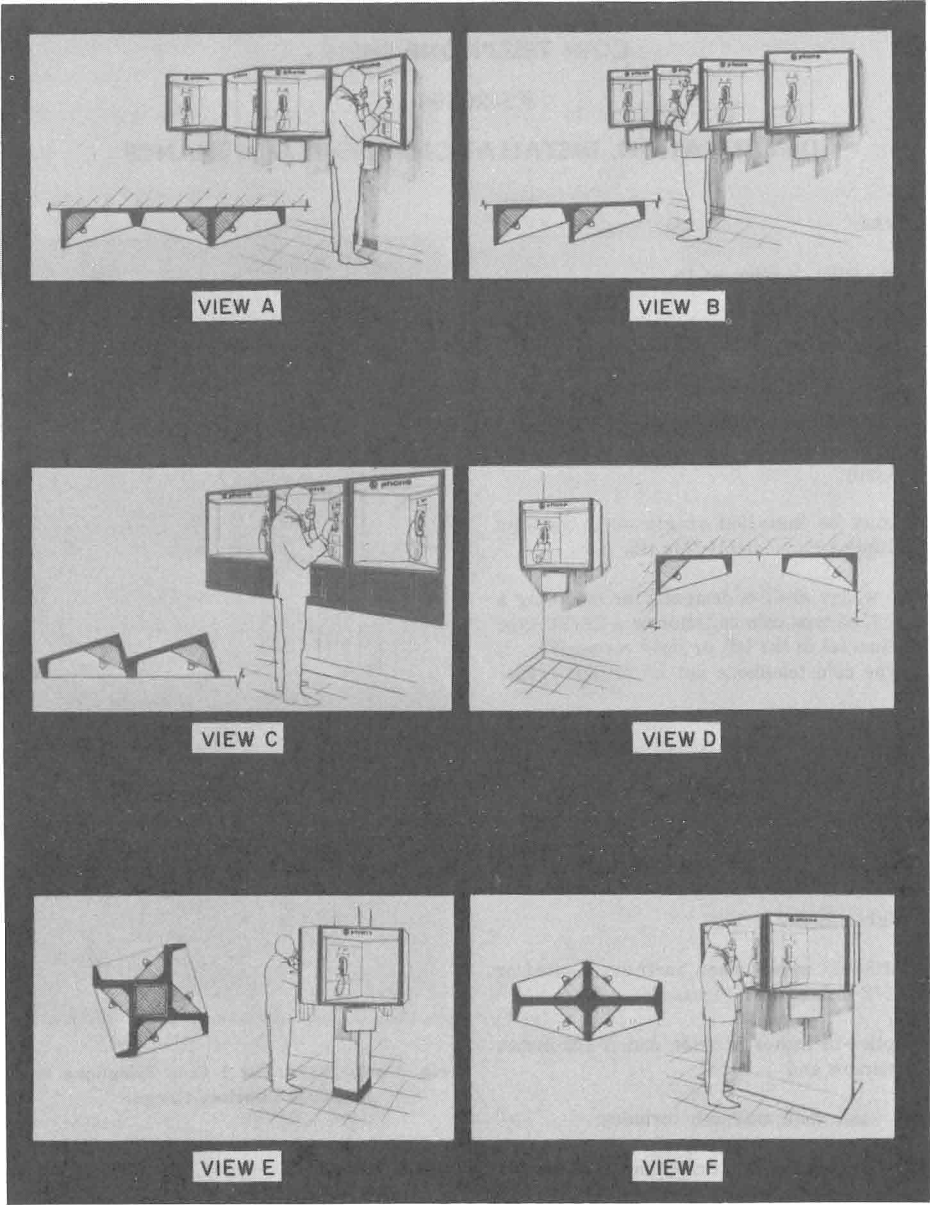

Fig. 2—Various Multiple Arrangements for KS-20194 Shelf
1.03 It may be installed singly or in various multiple arrangements (Fig. 2).